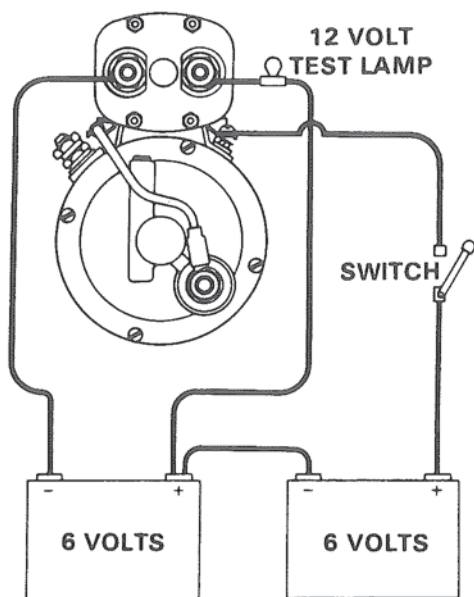

Figure 17. Solenoid Ground Test.
4. Connect solenoid to 12 volt power supply. Figure 17.